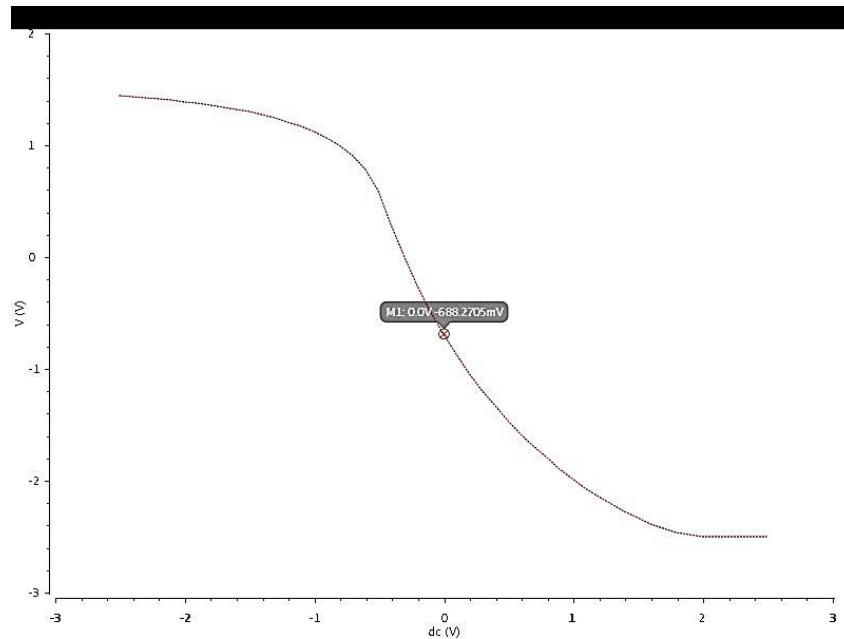

Figure 8.6: DC plot of CS Amplifier
- (b) The response of the DC analysis is shown in Fig.8.6.